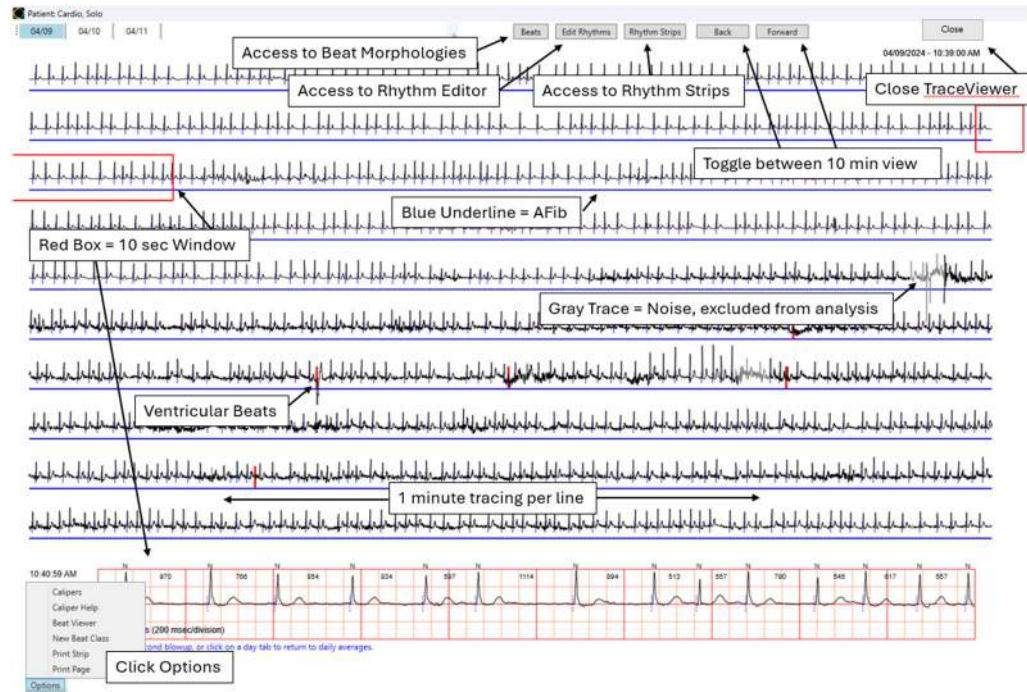

Figure 7.5. 10-minute TraceViewer.
Clicking at any time point in the day view will present the 10-minute ECG record associated with the selection, Figure 7.5.
**Print:** Clicking Options / Print Strip (lower left on Figure 7.5) will print 50 or 100 second rhythm strips, centered on the current ten second rhythm strip, to a standard Windows connected printer. Selecting Options / Print Page will print the entire 10-minute view.
**Calipers:** Clicking Options / Calipers (lower left on Figure 7.5) will activate the calipers and display two vertical caliper lines on the 10 second rhythm strip. Clicking on the Options / Caliper Help button will display the Caliper Help:
The behavior of the beats in the class (e.g. premature with a following pause, and with a long QRS duration) is used to classify the class as Normal or Ventricular. The beat classes are displayed by clicking the “Beats” button in TraceViewer, see Figure 7.5 above.
Beat Viewer: Right-clicking the mouse at any location in the 10-minute ECG TraceViewer display or selecting Beat Viewer from the Options button on the lower left of Figure 7.5, will present an average beat waveform viewer. The average waveform is constructed from the suite of beats that match the beat morphology and are within  $\pm 15$  beats of the beat clicked. To select the specific beat class, click at a point past the onset of the QRS of interest and within the RR interval following the beat.